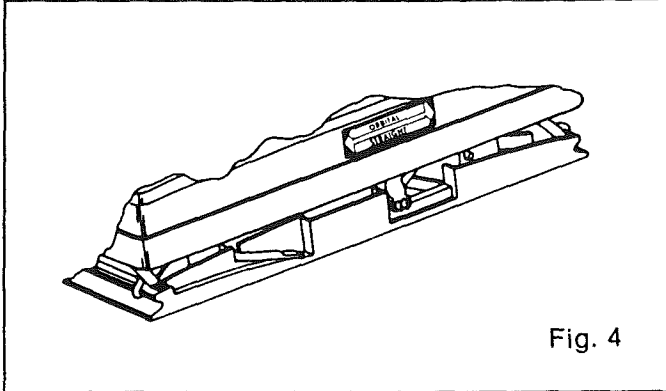

Fig. 4
4. For orbital motion slide lever backwards as shown in Fig. 4.